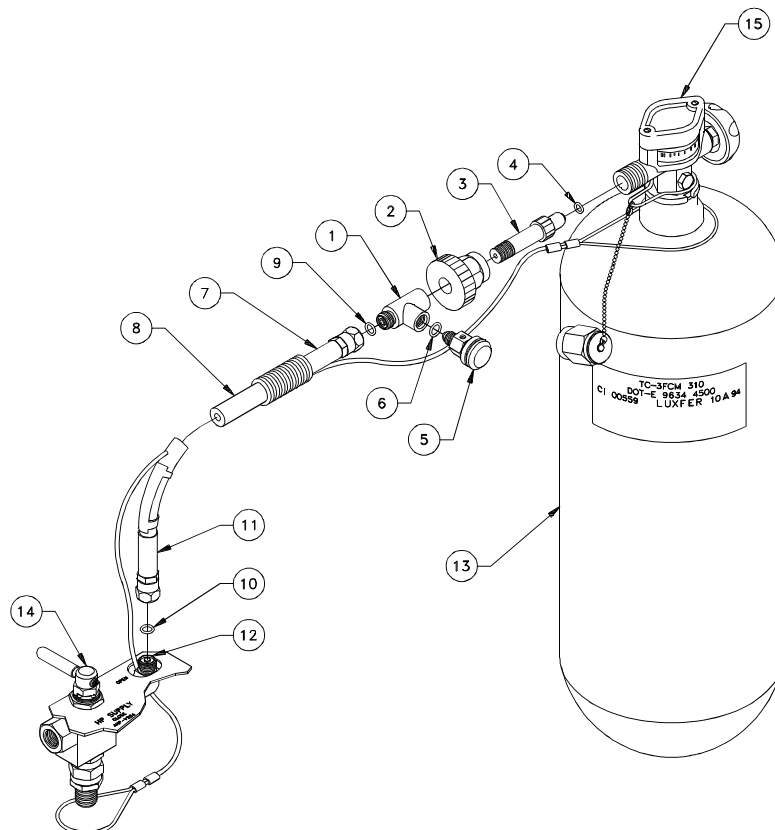
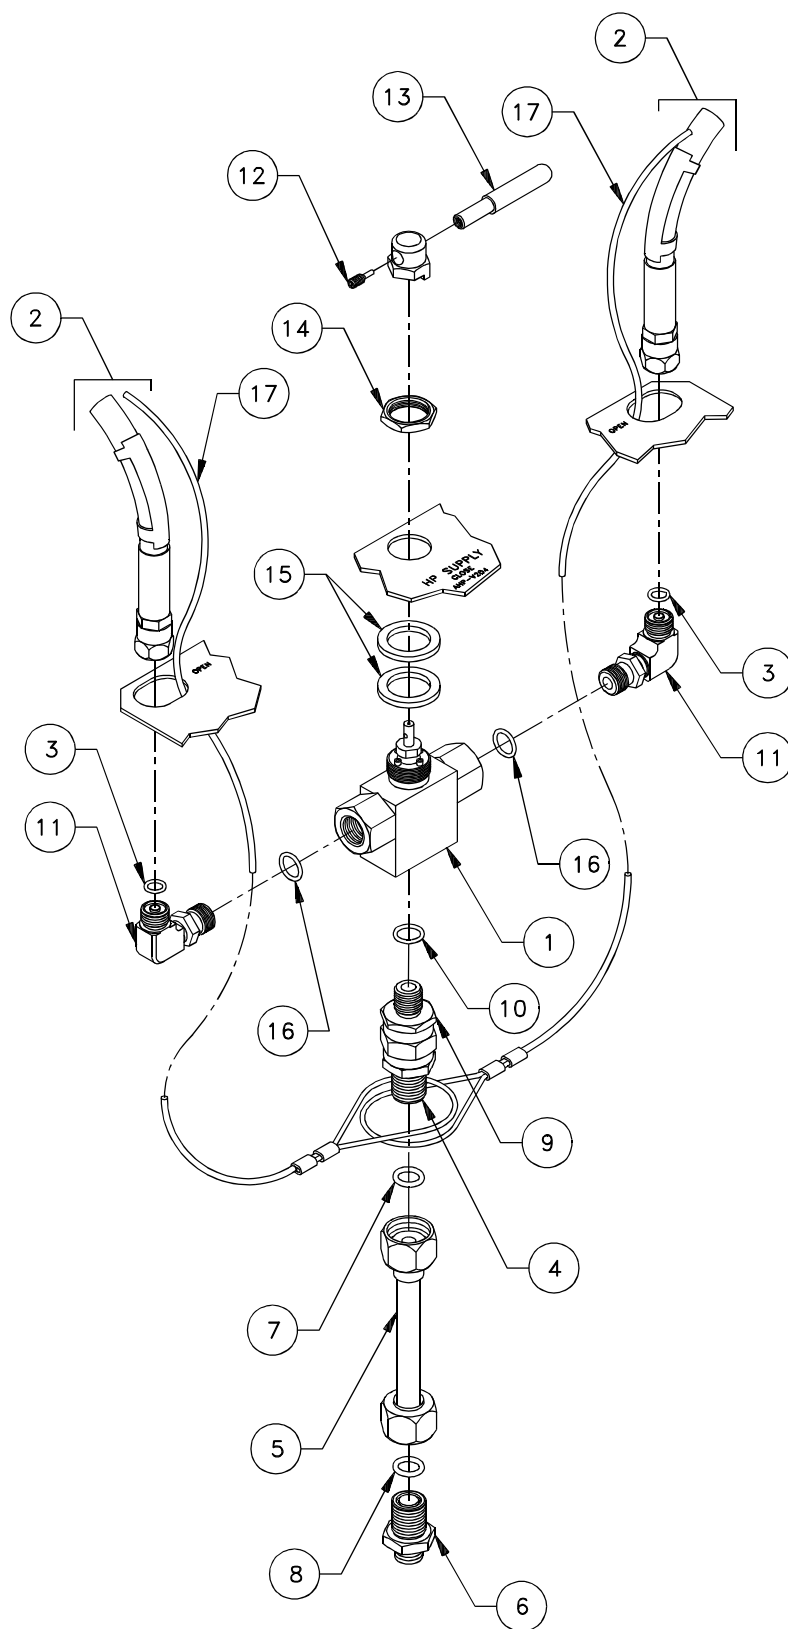

Figure 6-12. HP Air Hose Assembly
Figure 6-13. Three-Way Ball Valve (AHP-V204)
#### 6.5.3.1 Nipple and/or O-Ring Removal and Replacement (Figure 6-12).
#### 6.5.3.2 Bleed Valve Removal and Replacement (Figure 6-12).
#### 6.5.3.3 Air Hose Removal and Replacement (Figures 6-12 and 6-13).
Refer to Figure 6-13 for Steps b.(1) through b. (5).
- (1) Remove CPA IAW paragraph 6.5.2.1.
- (2) Place CPA face down with three-way ball valve (1) facing the front of work table.
- (3) Holding connector (4) with 15/16" open-end wrench, loosen tubing (5) nut with 1" wrench.
- (4) Holding connector (6) with 15/16" wrench, loosen tubing (5) nut with 1" wrench. Remove tubing (5). Remove both O-rings (7, 8). Remove HP air hose assembly wire rope lanyard.
- (5) Using 11/16" wrench, remove HP air hose assembly (2); remove O-ring (3).
Refer to Figure 6-12 for Steps b.(6) through b.(8).
- (6) Place tee (1) in vise or hold firmly with 3/4" wrench.
- (7) Loosen nut swivel fitting (7) with 11/16" wrench.
- (8) Remove hose (8) with lanyard from tee. Remove O-ring (9).
Refer to Figure 6-12 for Steps c.(1) through c.(3) below.
- (1) Install O-ring (9) on tee (1).
- (2) Screw hose fitting (7) onto tee (1) and hand-tighten.
- (3) Place tee (1) in vise or hold with 3/4" wrench; tighten fitting (7) with 11/16" wrench.
Refer to Figure 6-13 for Steps c.(4) through c.(8).
- (4) Feed wire rope lanyard (17) from HP air hose assembly (2) through the control panel elbow hole. Place loop around connector (4).
- (5) Install new O-ring (3) on elbow (11).
- (6) Install HP air hose (2) on elbow (11); tighten using 11/16" wrench.
- (7) Install O-rings (7, 8) on connectors (4, 6). Carefully fit tube (5) between connectors (4, 6) and hand-tighten two tube nuts. Hold connector (4) with 15/16" wrench and tighten tube upper nut with 1" wrench; hold connector (6) with 15/16" wrench and tighten tube lower nut with 1" wrench.
- (8) Perform HP air hose system tightness test IAW paragraph 6.5.3.5. Use a brush to wipe leak-test solution over connections of HP air hose assembly during test.
- (9) Reinstall CPA IAW paragraph 6.5.2.1.